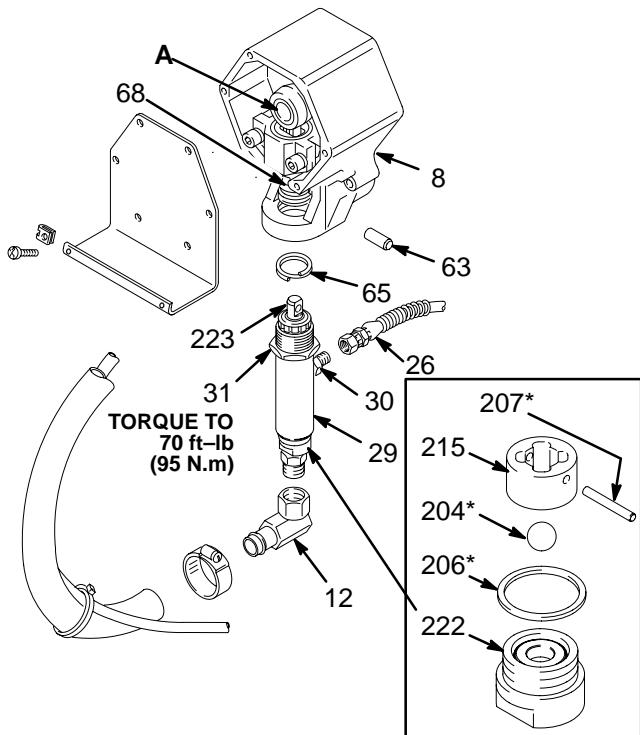

Fig 11
Removing the Pump. See Fig 11.
NOTE: Refer to Fig 11 for this procedure.
Reinstalling the Pump. See Fig 11.
Be sure the retaining spring (65) is completely in the connecting rod groove to prevent the pin (63) from working loose due to vibration. See Fig 11.
1. Remove and disassemble the intake valve (222). If no further service is needed, reassemble the valve, using a new gasket (206*). Torque to 80 ft-lb (107 N.m). See Fig 11.
2. Remove the packing nut (221) and plug (201).
3. Tap the piston rod (223) down with a plastic mallet. Pull the rod out the bottom of the cylinder (216).
4. Remove the packings and glands from the throat of the cylinder (216).
5. Clamp the flats of the piston rod (223) in a vise. Unscrew the retaining nut (214). Unscrew the piston valve (224) from the rod. Remove all parts from the piston.